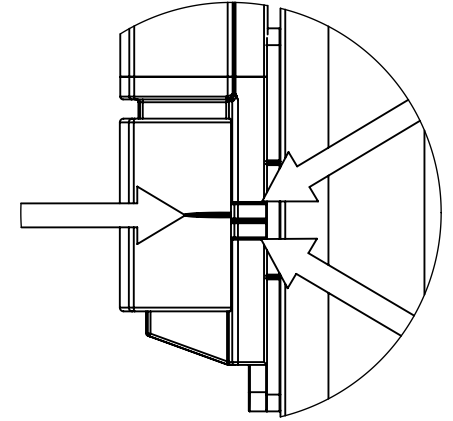

FIG. 8
2. Position the mark on the Keeper Assembly between the two outer marks on the Latch Body (Fig. 8). The ideal location is closer to the top mark.